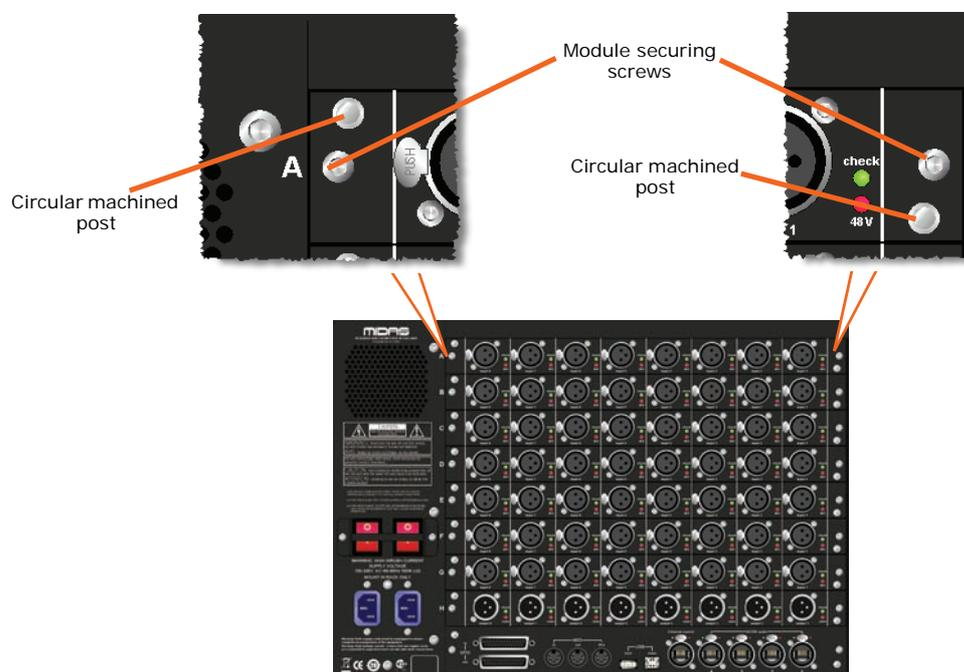

Figure 1: Location of components involved in module removal
- 3 Remove the two securing screws at either end of the module you wish to remove (see Figure 1).
- 4** Secure using two securing screws (see Figure 1 "Location of components involved in module removal" on page 33).